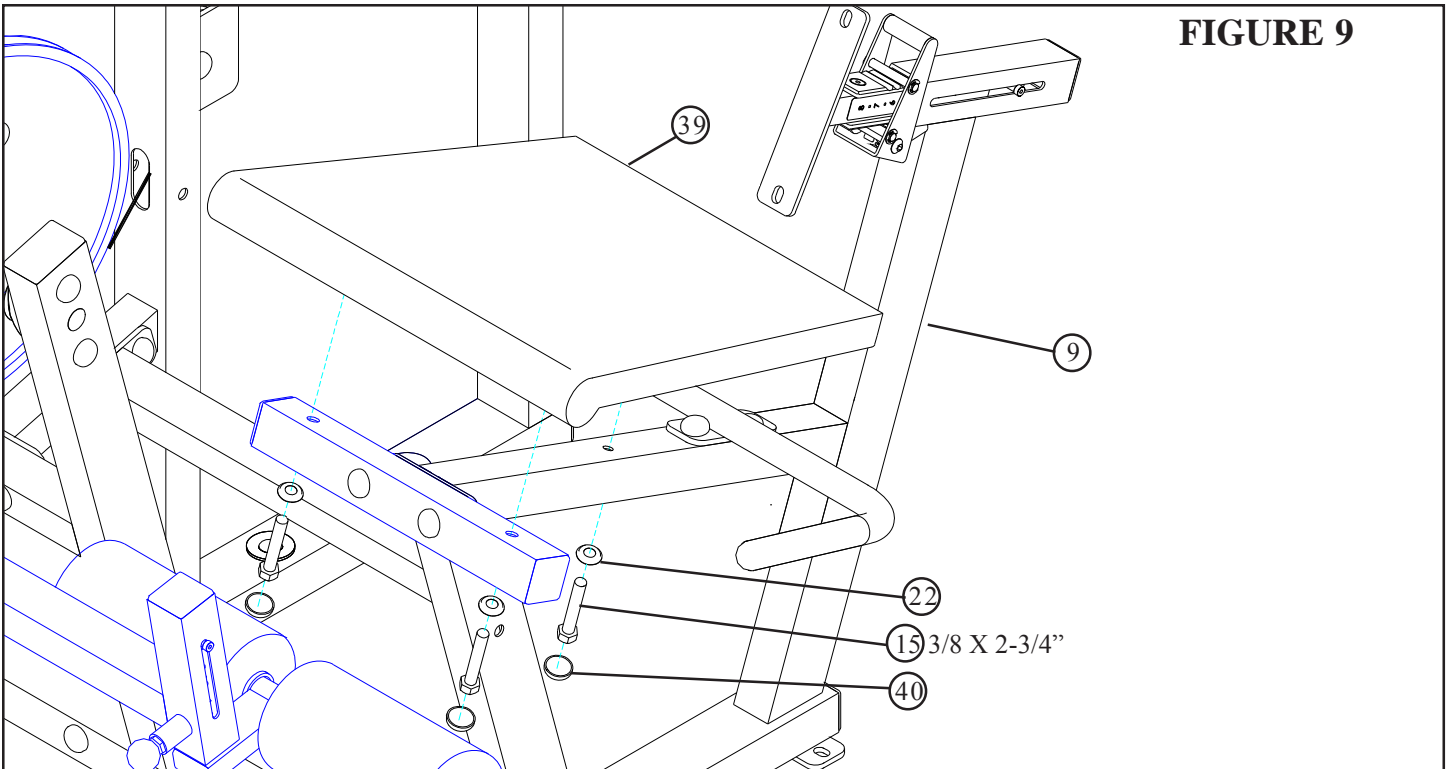

FIGURE 9
- **SECURELY** assemble the SEAT PAD (39) to the SEAT FRAME (9) using three RH CAPS (40), three 3/8 X 2-3/4" BOLTS (15) and three 3/8" RH WASHERS (22) as shown in FIGURE 9.